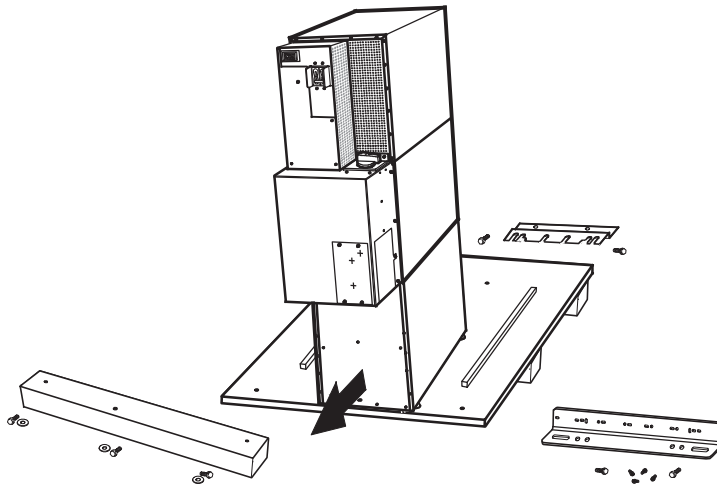

Figure 4. Unloading the Cabinet
8. Slowly roll the cabinet toward the rear of the pallet. Once the pallet tilts, continue rolling the cabinet down the pallet until the cabinet touches the floor (see Figure 4).